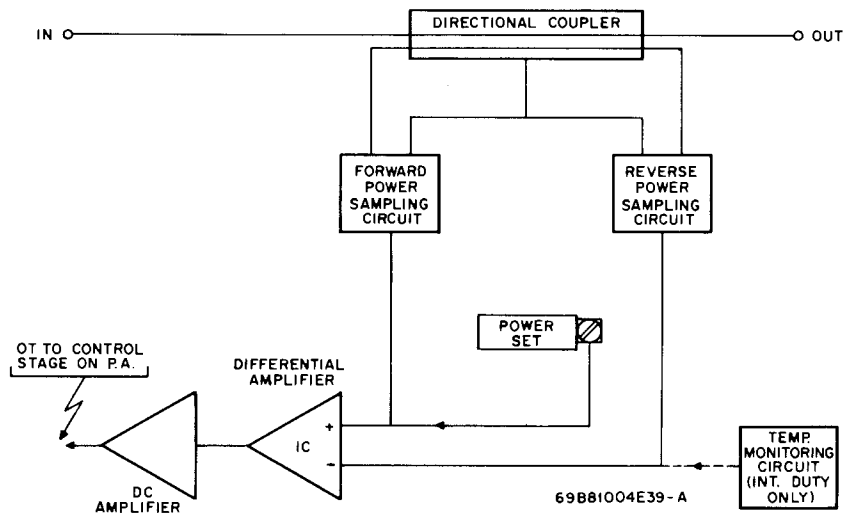

Figure 3. Power Control Board Block Diagram
**2.2.2** Refer to the block diagram, Figure 3. The output of the integrated circuit differential amplifier, amplified by the dc amplifier, is the controlling input to the power amplifier board.